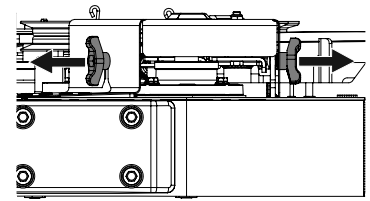

Figure 53
2. Remove the hex thumb screws securing the belt covers to the deck. See Figure 53.